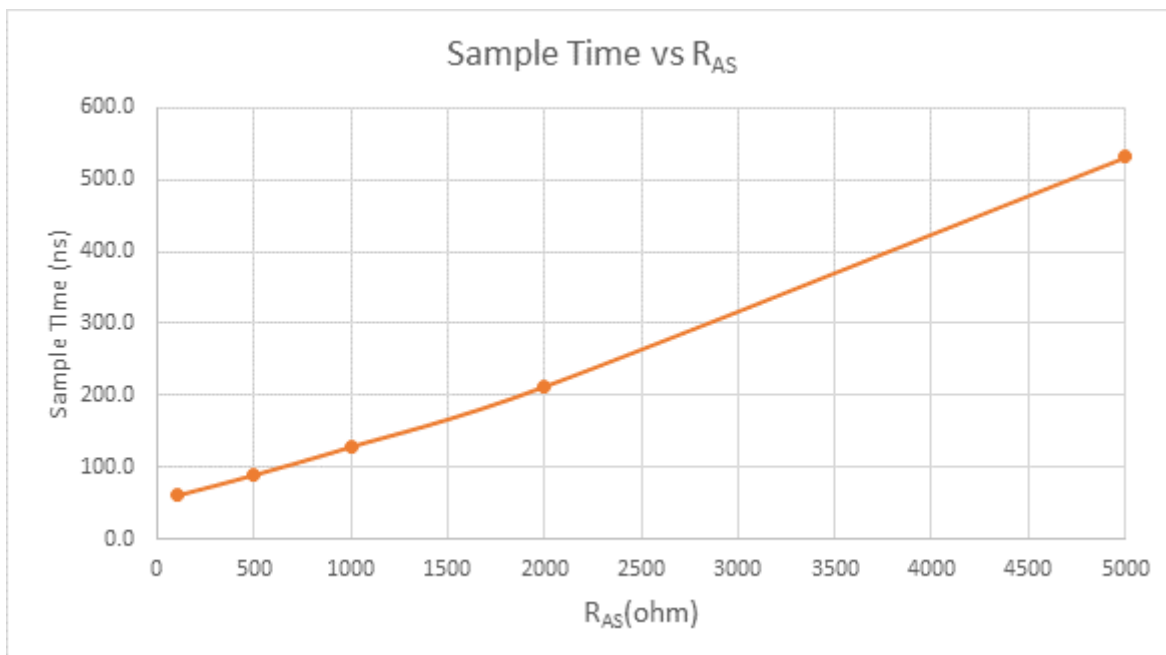

Figure 33. Sample time VS.  $R_{AS}$
3 See Figure 33, "Sample time VS. RAS".
- 5 See Figure 33, "Sample time VS.  $R_{AS}$ ".